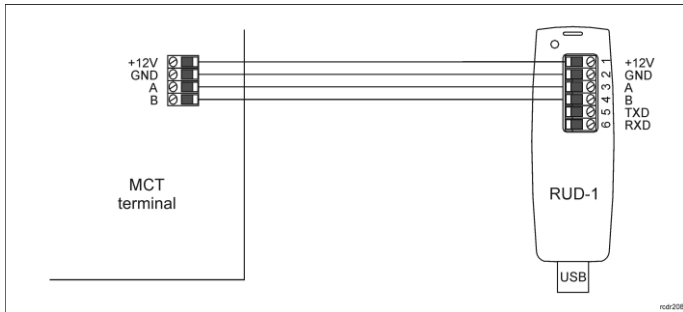

Fig. 1 Connection of panel to RUD-1 interface (configuration)
1. Connect the device to RUD-1 interface (fig. 1) and connect the RUD-1 to computer's USB port.